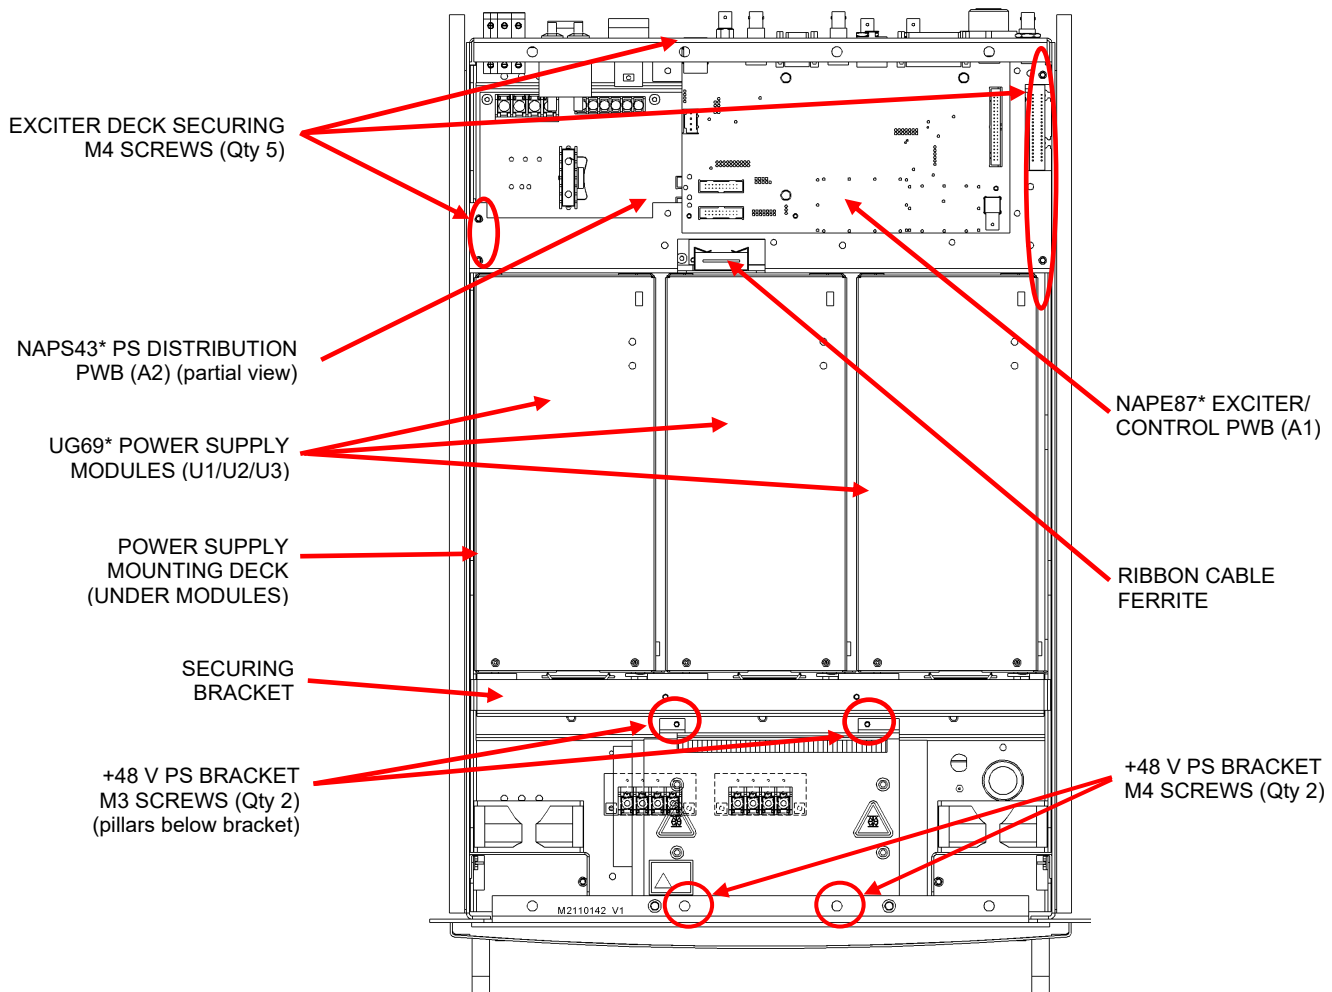
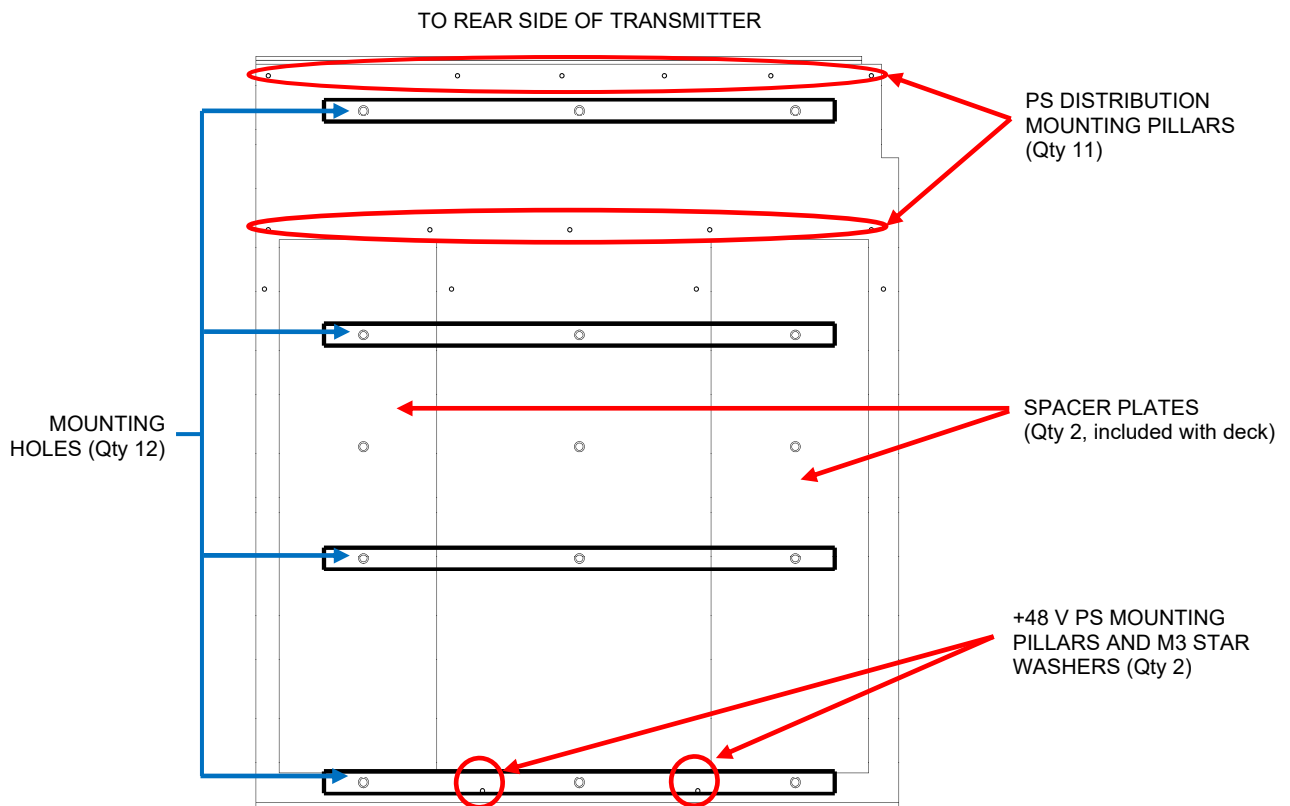

Figure 1: VS2.5 Top View with NAPS53 and UG69s
Figure 3: New Power Supply Mounting Deck
Refer to Figure 1 and Mechanical Drawings MD-1 and MD-4 in Section 6 of the VS2.5's Troubleshooting Manual for reference.
- (b) Remove the securing bracket from the front of the Power Supply Modules (U1 to U3) by removing the two (2) M3 screws in the top of the bracket (see Figure 1) and the two (2) M4 countersunk screws in each side of the transmitter chassis. Discard bracket and retain hardware.
- (f) Remove and retain the five M4 screws that secure the Exciter Deck (see Figure 1).
- (g) Before removing the Exciter Deck, ensure that the exciter wiring and associated items are clear of the Power Supply Distribution PWB and Exciter Deck, cutting tyraps if necessary. Cut the tyrap around the Ribbon Cable Ferrite (see Figure 1) to move the ribbon cables clear of the Exciter Deck and be careful in the following step not to damage the ferrite. Cut the adhesive tape that secures the Ribbon Cable Ferrite bracket to the Exciter Deck. Retain the adhesive tape for re-installation.
- (e) Remove the 12 M3 countersunk screws that secure the Power Supply Mounting Deck to the transmitter chassis (see Figure 1 to locate the Power Supply Mounting Deck and see Figure 3 for securing hardware location). Retain hardware for re-installation.
- (f) See Figure 1. Remove and retain the two M3 screws securing the +48 V Power Supply Mounting Bracket to the Power Supply Mounting Deck. Remove and retain the two countersunk M4 screws securing the +48 V Power Mounting Bracket, from just above the front panel, and carefully reposition the +48V PS Mounting Bracket to allow access to the two (2) pillars under the M3 screws. Take care to ensure the +48 V Power Supply's wiring is not damaged.
- (g) Use a 6-mm nut driver to remove the two (2) pillars accessed in step (f). Retain pillars for re-installation. Remove and discard the M3 star washers under the pillars.
- (b) Install 11 of the 12 pillars and washers retained in step 2.2 (h) in the PS Distribution Mounting Pillars positions shown in Figure 3. Install the chafe rail on the rear side edge.
- (c) While ensuring that all wires removed in step 2.2 (c) are clear of the deck area, install the Power Supply Mounting Deck to the transmitter chassis using the 12 M3 countersunk screws retained in step 2.2 (e). See Figure 3 for mounting locations for both scenarios.
- (h) Use a 6-mm nut driver to re-install the pillars retained in step 2.2 (g) on the Power Supply Mounting Deck, on top of new M3 star washers (Nautel Part # HMW10) from the Hardware Kit. See Figure 3 for +48 V Power Supply mounting pillar locations.
- (a) While ensuring that exciter wiring, ribbon cable ferrite, and associated items are clear, re-install the exciter deck retained in step 2.1 (h) in the transmitter, by pushing it backward and down. Use five screws retained in 2.1 (f) to secure the exciter deck to the transmitter chassis (see Figure 1). Re-insert tyrap anchors in their original locations, noting there are additional tyrap anchors (Nautel Part # HAC61) in the Field Modification Kit.
- (c) Re-install the Exciter/Control PWB (A1, Nautel Part # NAPE87*), following the steps outlined in Section 1 of the VS2.5 Troubleshooting Manual. See Figure 1 for location and orientation. If an Orban Inside card is installed on the Exciter/Control PWB, it can remain secured to the Exciter/Control PWB during installation.
- (b) Install the new Power Supply Modules in the U1 and U3 positions of the transmitter (the middle position, U2, is no longer used) and slide them toward the rear of the transmitter to engage them with their mating connectors. The Power Supply Modules should be resting on their respective Spacer Plates (see Figure 3) when correctly positioned.